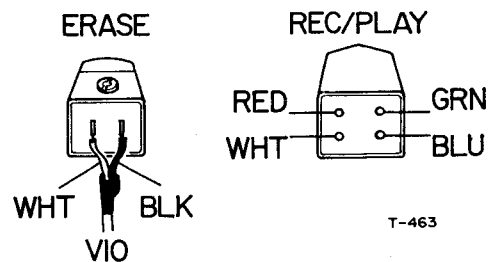

Fig. 3-5 Head Wiring Diagram
1. Unsolder each lead wire from the terminal pin of the heads to facilitate replacement. To re-solder each head wire to the newly replaced head, refer to Fig. 3-5.
2. Lift up the heads after taking off the hardware mounting them. When removing the nut, do not loose Washer (F) and Spring (G).